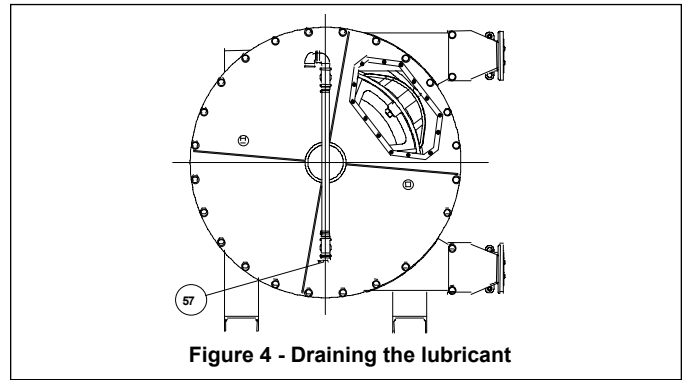

Figure 4 - Draining the lubricant
2. Drain the lubricant from the casing by removing the drain plug (57). Collect the lubricant in a pan. See Figure 4.